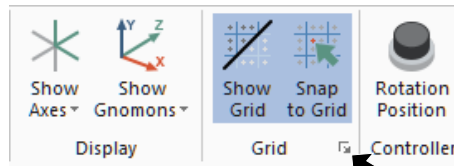

Fig. 6
Step 2. Click the **Dialog Box Launcher** (Alt-G), **Fig. 6**.